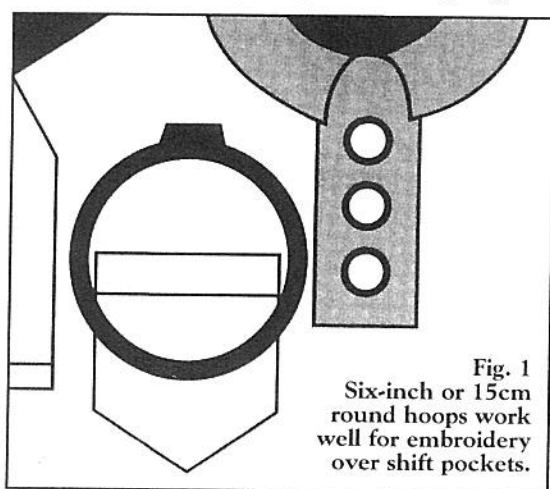

Fig. 1
- **Six-inch or 15cm round hoops.** These are often preferred for embroidery over shirt pockets, because they allow the embroiderer to keep the bulky pocket seams inside the hoop. In other words, even when a logo will fit inside a four-inch hoop, the pocket area can be trooped straighter and flatter when the hoop falls outside the pocket corners. (See Fig. 1.) These hoops are also used for blazer crests, aprons and jackets.